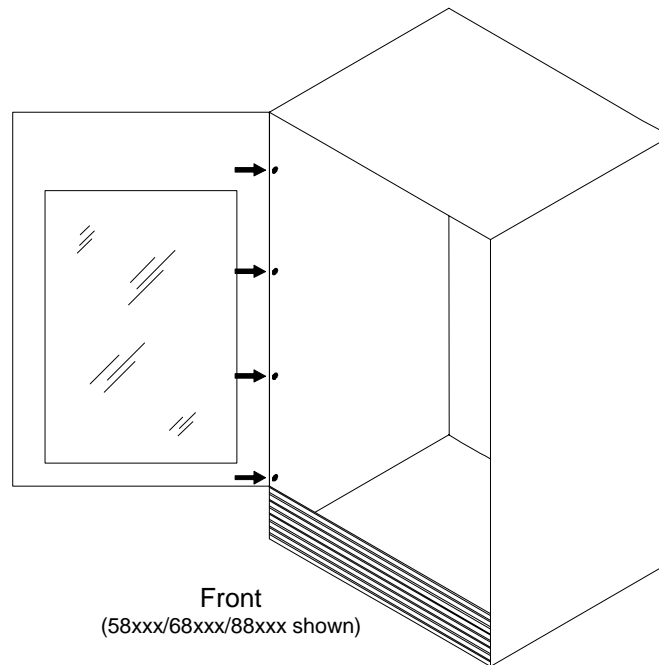

Figure 7-3 Left Side Panel Nuts (Some single bay models do not have these nuts.)
5. If your TLS has 1/4-inch nuts inside the left Side Panel (Figure 7-3), remove them.